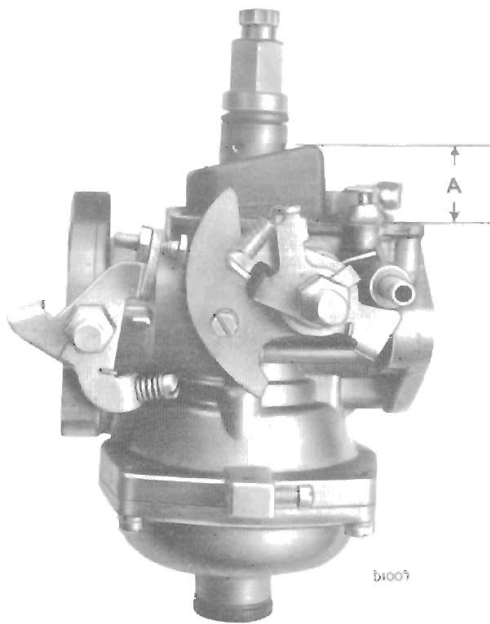

Fig. 49. Checking float chamber fuel level
**Float Chamber Fuel Level (Fig. 49)**